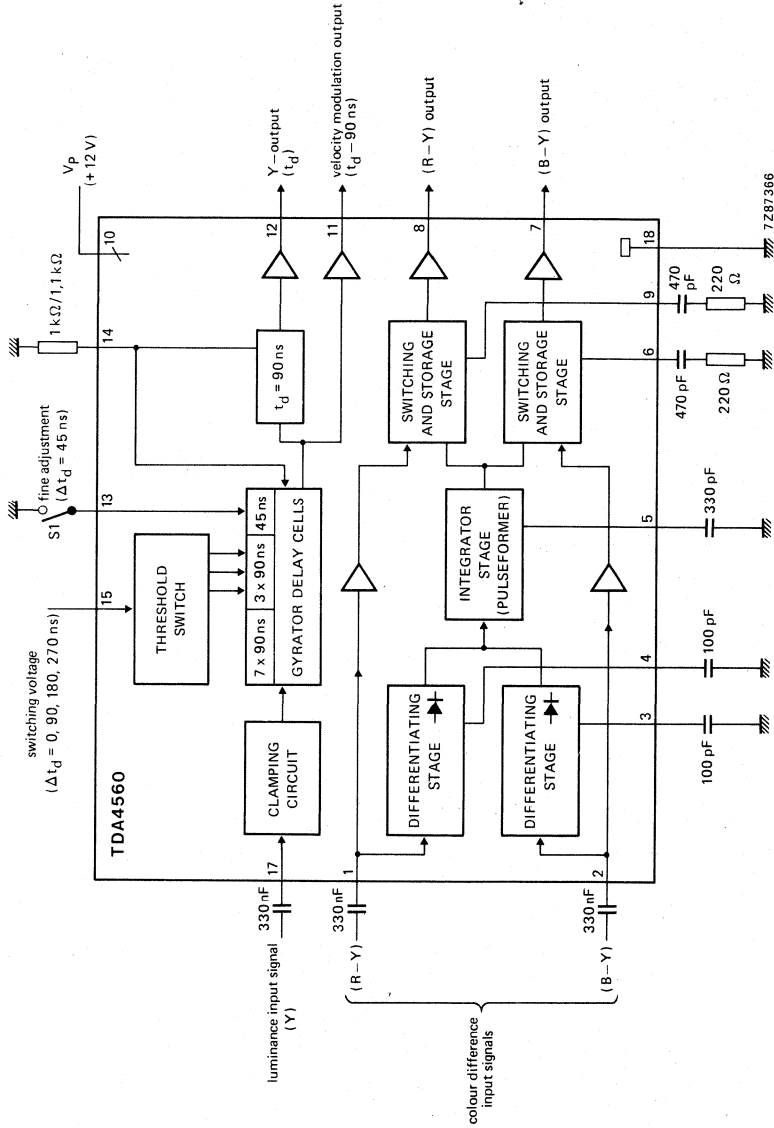

Fig. 1 Block diagram.
The IC consists of two colour difference channels (B-Y) and (R-Y) and a luminance signal path (Y) as shown in Fig. 1.